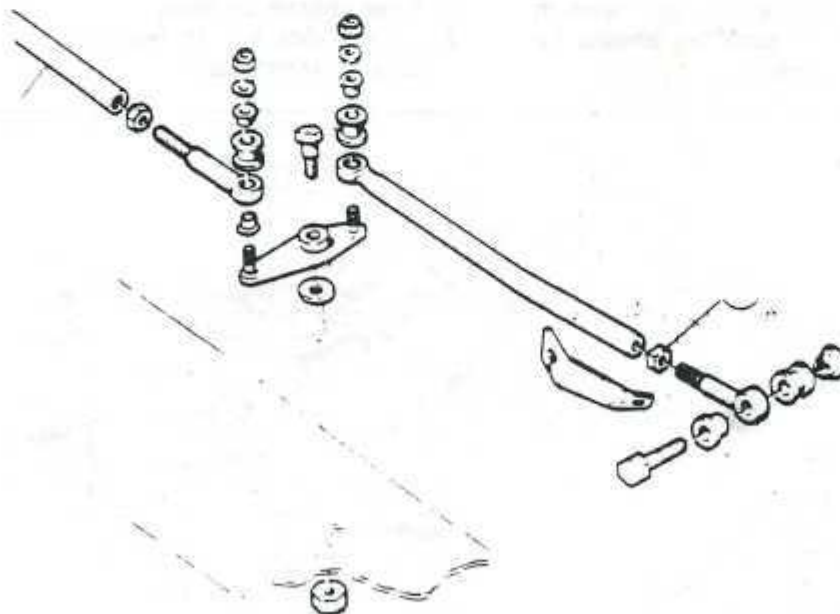

Fig. 43
8. Adjust cable. See cross gate cable adjustment procedure (Fig. 43)